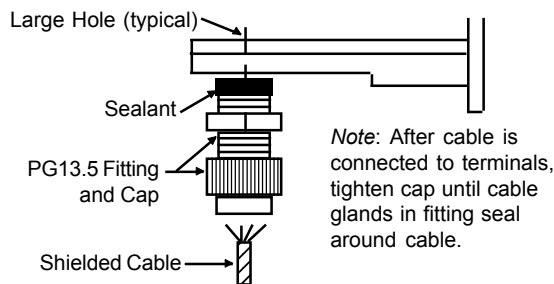

Figure 6-19. Inserting Shielded Interconnect Cable through PG13.5 Fitting and Cap
- Non-conduited installation — See Figure 6-19. Spread a generous bead of sealant around the sides of the PG13.5 cable fittings. Install the fittings in the two large holes in the bottom of the junction box.